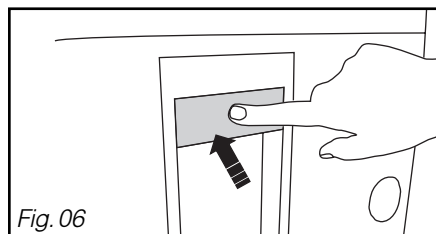

Fig. 06
- Press on the upper part of the tank to free it from its housing (Fig. 06).